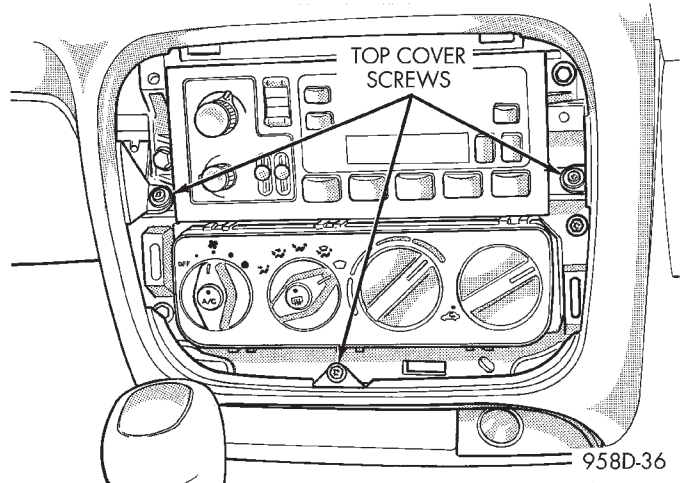

Fig. 14 Instrument Panel Top Cover-Center
- (9) Remove screws holding instrument panel top cover to center of instrument panel (Fig. 14).